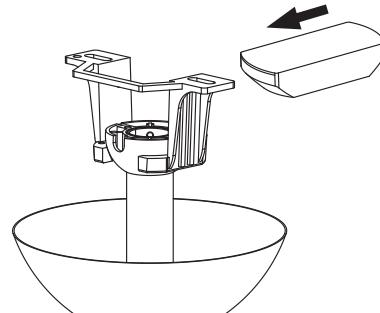

Fig. 13
Step 1. Insert the receiver into the ceiling mounting bracket with the flat side of the receiver facing the ceiling (**Fig.13**) for best performance, make sure the black antenna wire (on the end of the receiver) remains extended, and does not become tangled with the electrical wires.
Make each of the wire connections illustrated in Fig. 13. Secure each with the wire nuts provided.